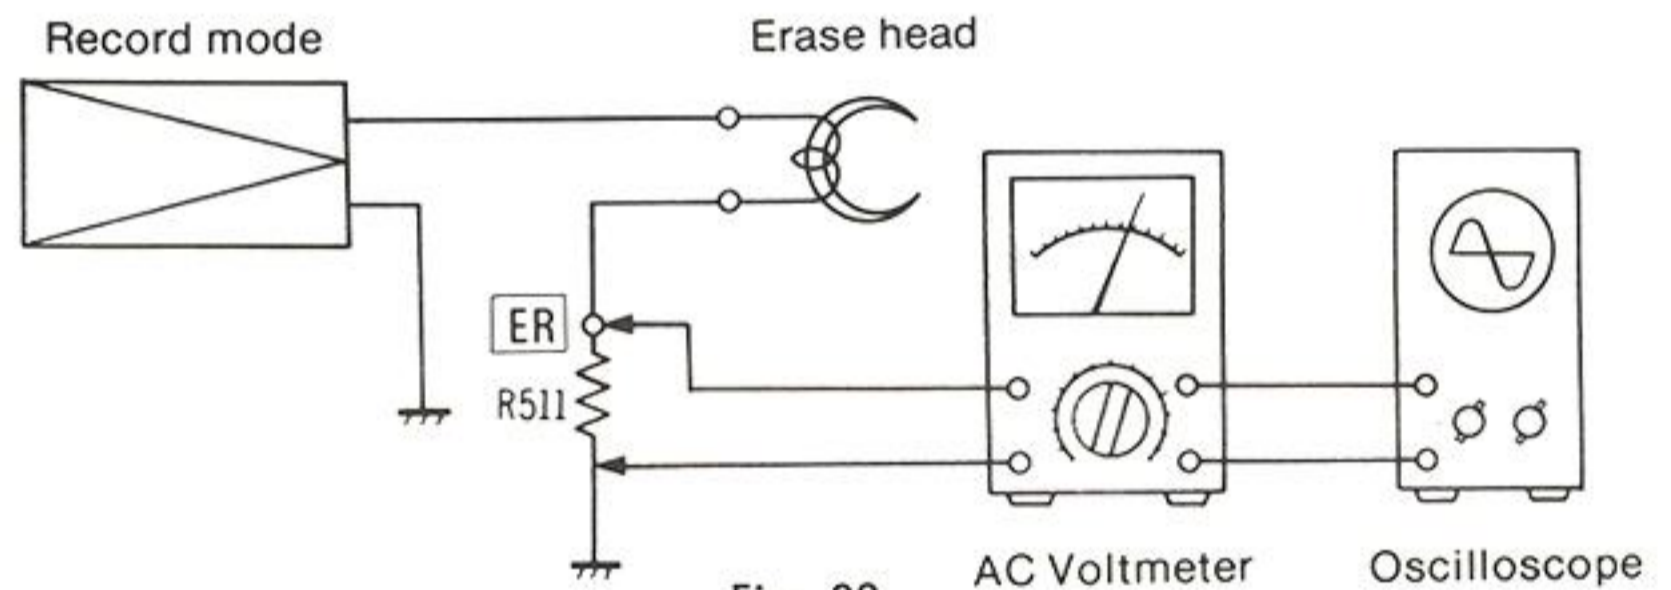
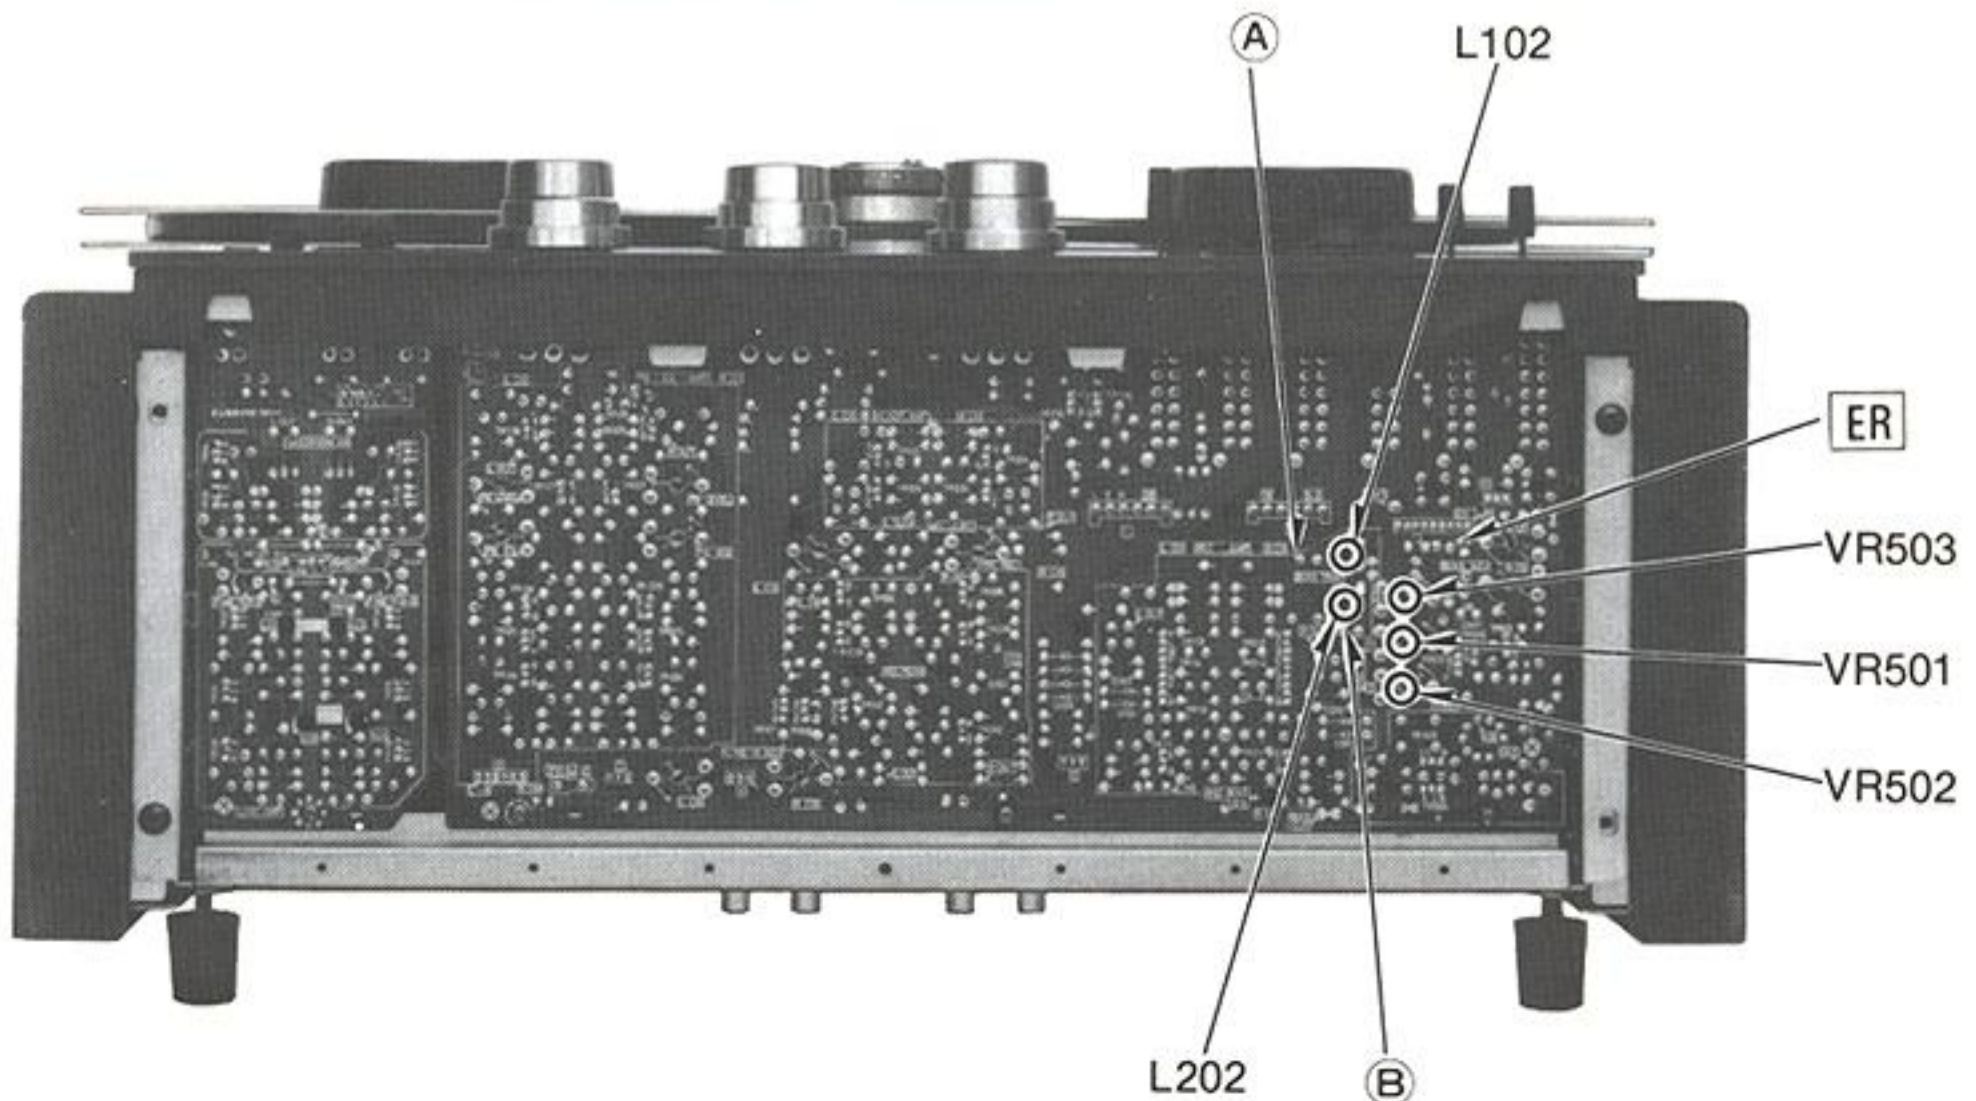

Fig. 38
Fig. 39
Erase current	<ol style="list-style-type: none"> 1. Test equipment connections are shown in fig. 38. 2. Set the Line-in level control to minimum position. 3. Set the bias selector to "1" position. 4. Set the tape speed selector to "38" position. 5. Set the recording mode selector to "ON" (L-CH) and "OFF" (R-CH). 6. Place unit into recording mode. 7. Measure voltage at point (A) and then calculate erase current by formula below. $\text{Erase current} = \frac{\text{Value read on VTVM (V)}}{1 (\Omega)}$ <div style="border: 1px solid black; padding: 5px; margin: 10px auto; width: fit-content;"> <p>Standard value: Bias selector "1" position: around 65 mA</p> </div> 8. Then set the recording mode selectors to "OFF" (L-CH) and (R-CH), and confirm that the above standard value can be obtained. <p>[Adjustment] If the measured value is not satisfied, adjust the erase current adjustment VR, VR501. (See fig. 39.)</p> <ol style="list-style-type: none"> 9. Next, set the bias selector to the "2" position, and confirm that the standard value shown below can be obtained. <div style="border: 1px solid black; padding: 5px; margin: 10px auto; width: fit-content;"> <p>Standard value: Bias selector "2" position: around 71 mA</p> </div> <p>[Adjustment] If the measured value is not satisfied, adjust the erase current adjustment VR, VR502. (See fig. 39.)</p>
(See fig. 39.)
Adjustment parts and test points (A) and (B) are shown in figure 39.